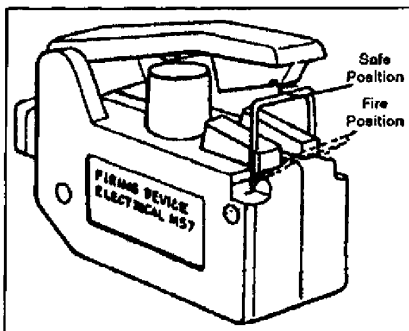

Figure 071-325-4425-13. Firing device in the SAFE position
- c. Position the firing device safety bail in the FIRE position (figure 071-325-4425-13).